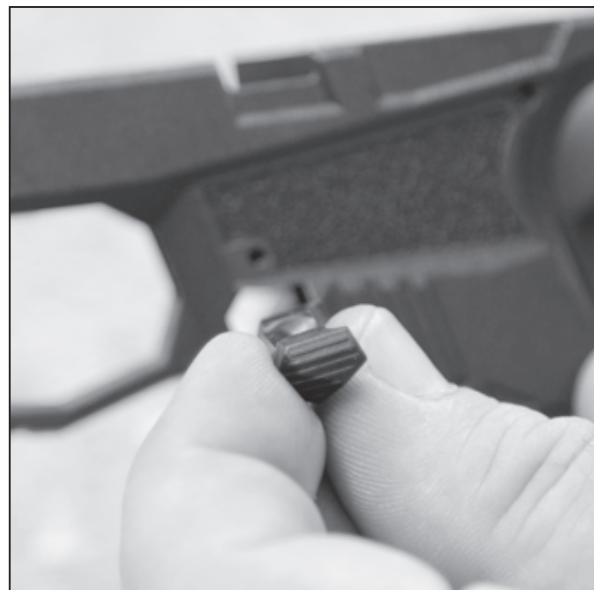

Figure 66 — Inserting and centering the magazine release button in the frame
2. Insert the magazine release button (21) into the frame (1) centering it (see Figure 66).